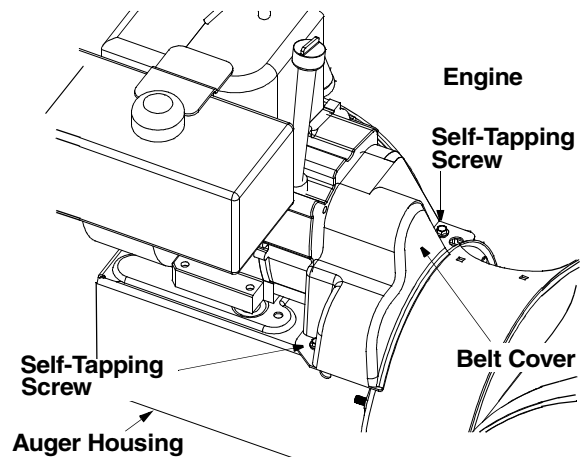

Figure 15
- Remove the plastic belt cover on the front of the engine by removing the two self-tapping screws. See Figure 15.
- Reinstall the belt cover on the front of the engine with the two self-tapping screws and flat washers. Refer to Figure 15.